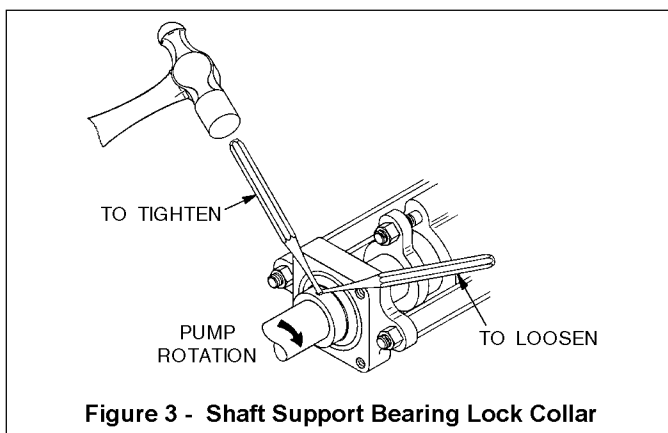

Figure 3 - Shaft Support Bearing Lock Collar
- c. Using a punch tool and hammer, tap the bearing lock collar in the opposite direction of pump rotation. See Figure 3.
- b. Place the bearing flange (106) on the studs and install and tighten the locknuts (106A).
- d. Push the bearing firmly against the lock collar while turning the lock collar by hand in the direction of shaft rotation. Lock the collar to the shaft by tapping it in the direction of pump rotation with a punch tool and hammer (refer back to Figure 3).